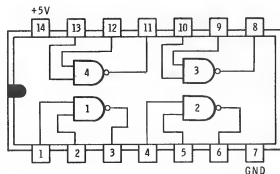

Figure 5-49
2. Mount the 7400 integrated circuit on the breadboarding socket. Be sure it is seated firmly, straddling the notch in the socket, and be sure that none of the pins are bent. Connect pin 14 to +5 volts (POS) and pin 7 to GND. Figure 5-49 shows the 7400 IC pin connections.